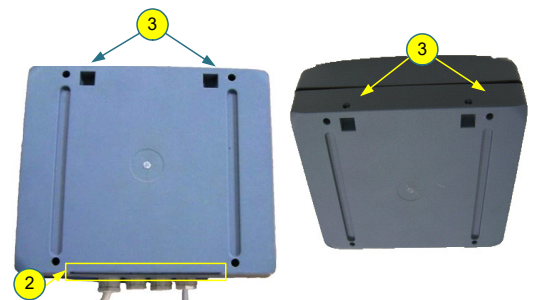

Figure 5-17: Control Module's Mounting Interface
- Step 1.** Set up the skids with spacing that matches the spacing measurements for the holes in the **Control Module's** mounting bracket (1). Refer to **Figure 5-17** above.
- Step 2.** Position the **Control Module's** mounting bracket so that its four holes (1) fit over corresponding holes on the skids.
- Step 6.** To mount the **Control Module**, place it onto its mounting bracket so that its groove at the bottom (2) rests on the lip at the bottom of its mounting bracket (2).
- Step 7.** Press the **Control Module** back onto the mounting bracket such that the top of the **Control Module** fits under the mounting bracket's tabs (3) at the top. The screw holes (3) on the top of the **Control Module** should line up with the mounting brackets tabs (3).